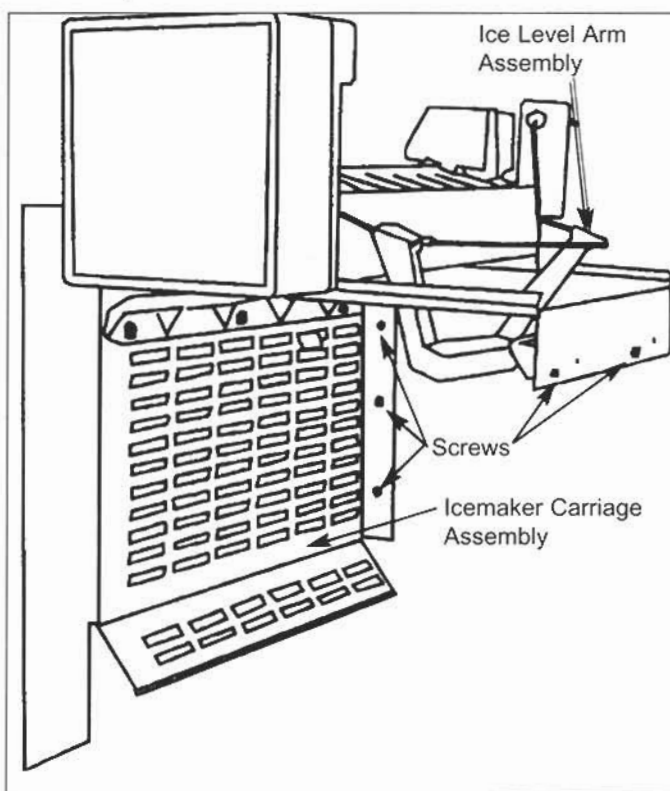

Figure 2-47. Lower Evaporator Cover
5. Remove the bucket mainframe assy. by unscrewing three screws located on the freezer side wall along with the three screws located on the back wall (Figure 2-47).